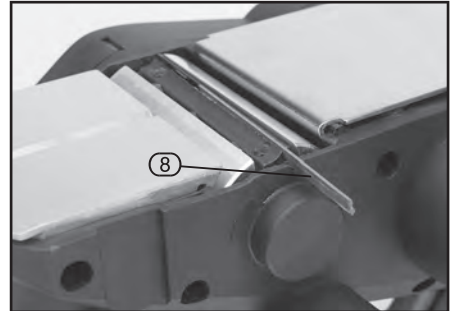
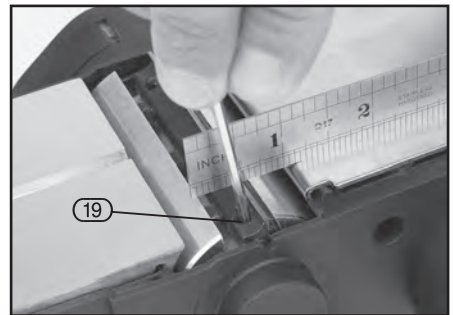

FIG.7
FIG.8
- Once loose, push the blade out of the holder through the notch using a small piece of wood so as not to damage any of the metal parts on the cutter or holder (Fig. 7).
- Install the new blade (8) by sliding it through the notch and into the holder.
- Using a straight edge (like a steel rule) check the blade setting by using the straight edge on the rear sole plate to check the level of the blade, adjust the two grub screws (19) using the supplied hex key until the blade is level and both blades have equal exposure (Fig. 8).